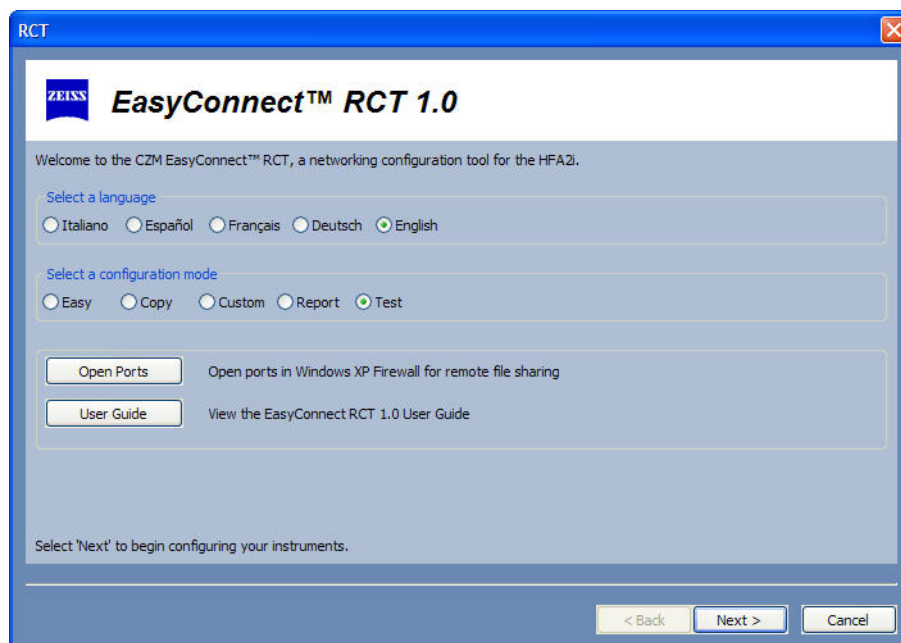

Figure G.43 Select Test Configuration Mode
- 1 Select TEST from the SELECT A CONFIGURATION MODE radio buttons (Figure G.43) and then select NEXT to continue.